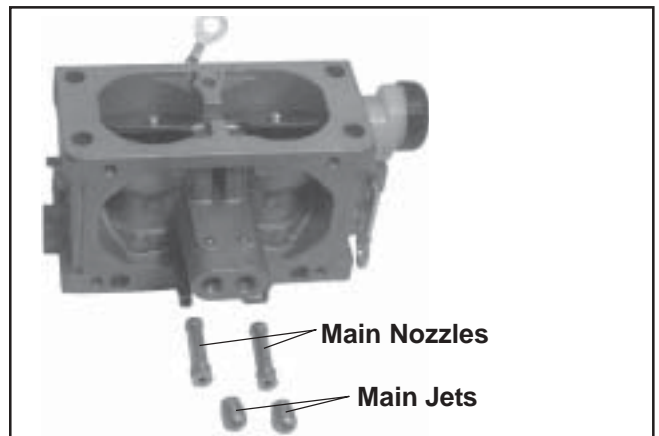

Figure 5-24. Main Jets and Nozzles Removed.
3. Use an appropriate size flat screwdriver, and carefully remove the two main jets from the carburetor. Note and mark the jets by location for proper reassembly. The main jets may be size/side specific. After the main jets are removed, the main nozzles can be removed out through the bottom of the main towers. Note the orientation/direction of the nozzles. The end with the two raised shoulders should be out/down adjacent to the main jets. Save the parts for cleaning and reuse. See Figure 5-24.